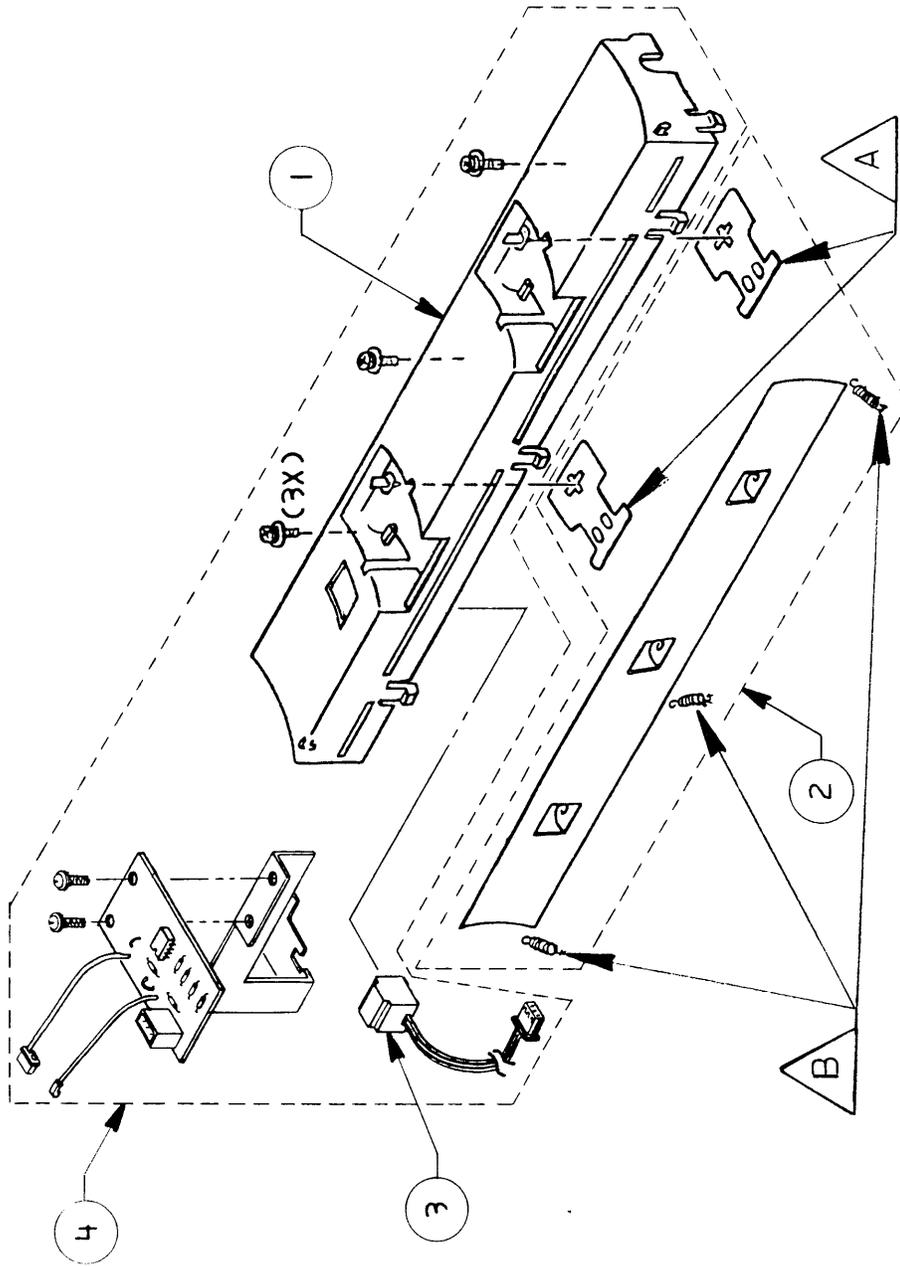

FIGURE 12
□ PAPER GUIDE ASSEMBLY (Figure 12)